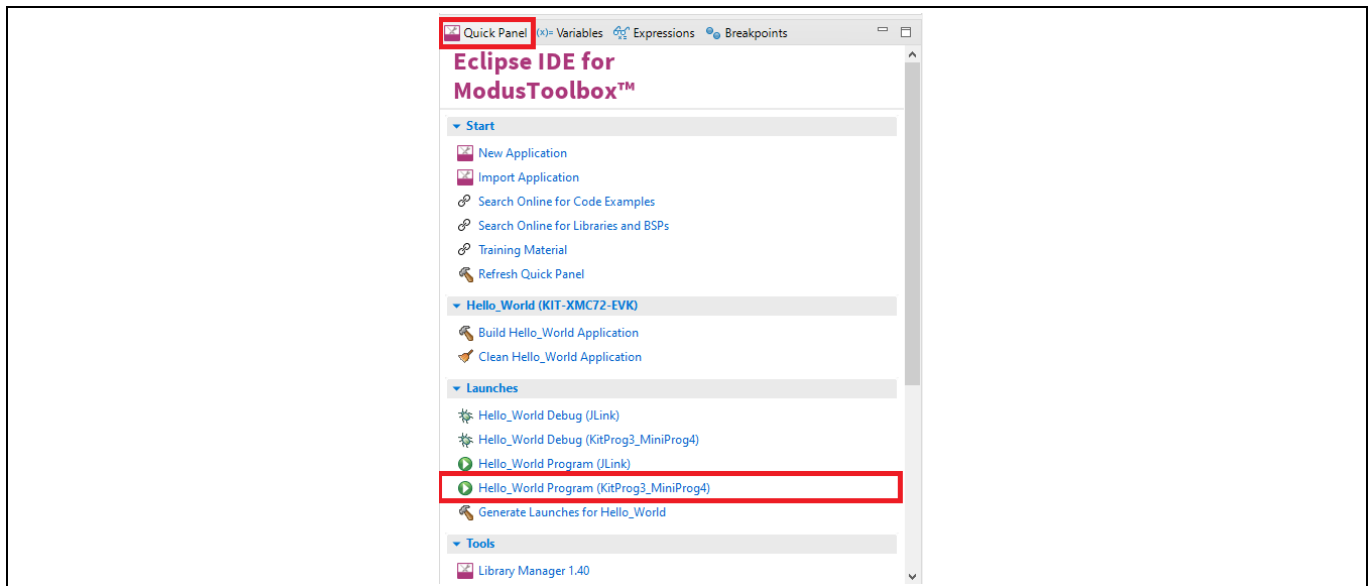

Figure 12 Programming in ModusToolbox™ software
- To build and program a XMC7200D application, in the Project Explorer, select **<App_Name>** project. In the Quick Panel, scroll to the Launches section and click the **<App_Name> Program (KitProg3_MiniProg4)** configuration as shown in **Figure 12**.